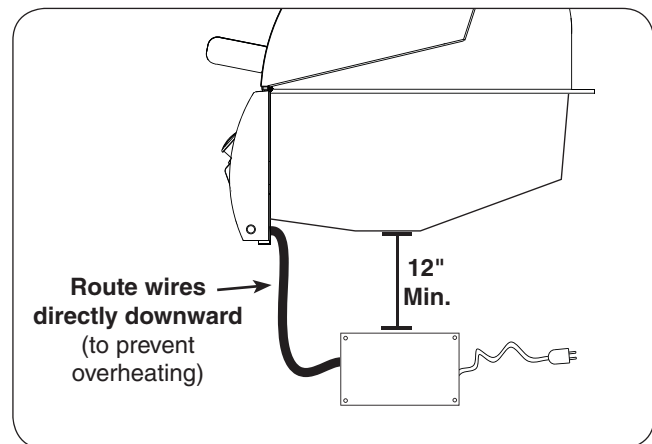

Fig. 16-3 Power supply clearance
- It **MUST** be located at least 12 inches below the bottom of the grill (see Fig. 16-3).
- The wire extension that exits from the control panel **MUST** be routed directly downward. This will prevent overheating. **DO NOT** route the wire extension below the grill (see Fig. 16-3).